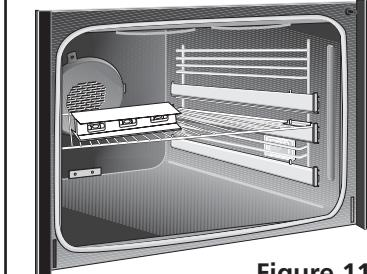

Figure 11
- Install an oven rack in the center of the lower oven (see Figure 11).